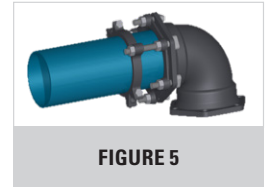

FIGURE 5
5. Connect restrainer to fitting per Figure 5. Insert the 7" T-head bolt (bolt and 2 hex nuts provided) through the bolt flange installing a hex nut between the gland and restrainer. Tighten the hex nut up to the gland per AWWA C600 standard. Tighten the second hex nut up to the restrainer as show in Figure 5. Use additional hex nuts (not included) on the inside of the restrainer ear if joint is expected to contract.